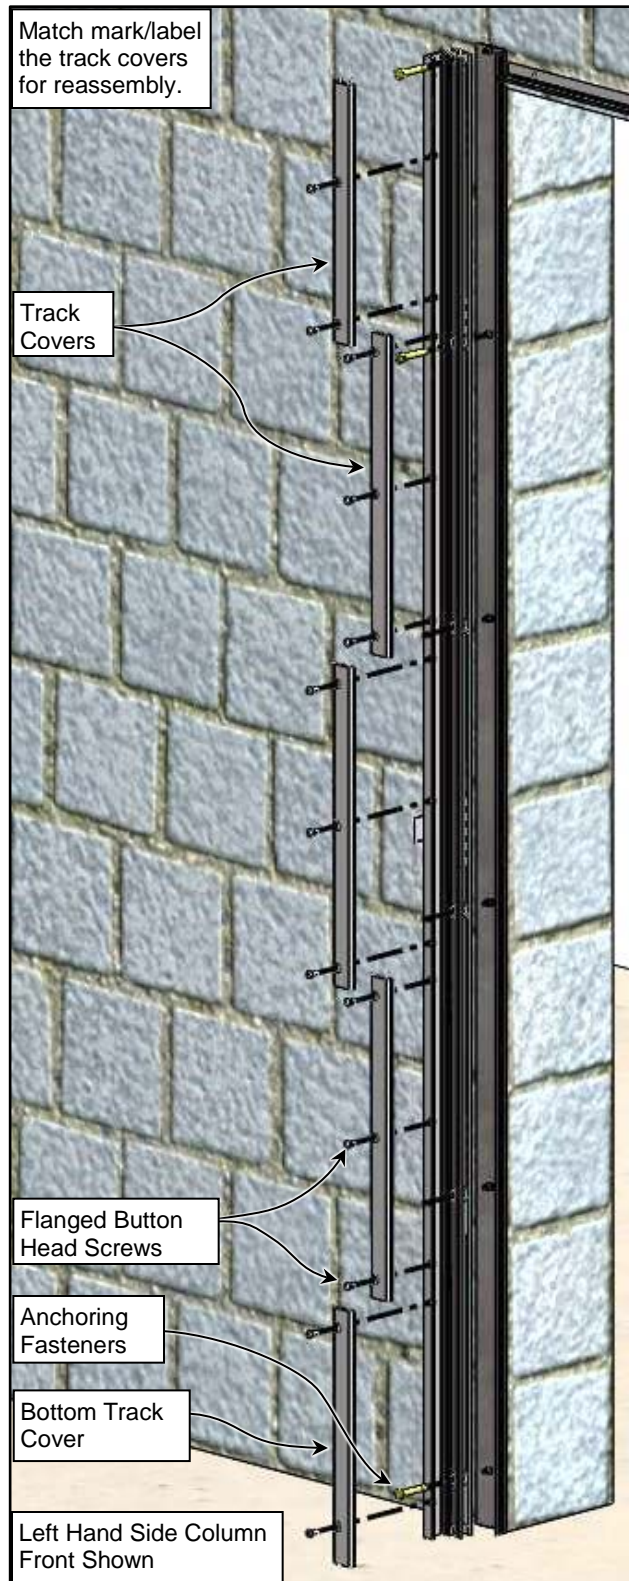

Figure 25
11. Remove the Track Covers from the Lower Track Assembly by taking off the Button Screws. We suggest match marking the Track Covers to where they were originally installed on the Lower Track Assembly. This will aid in reassembly and ensure the covers are replaced properly. (See Figure 25)